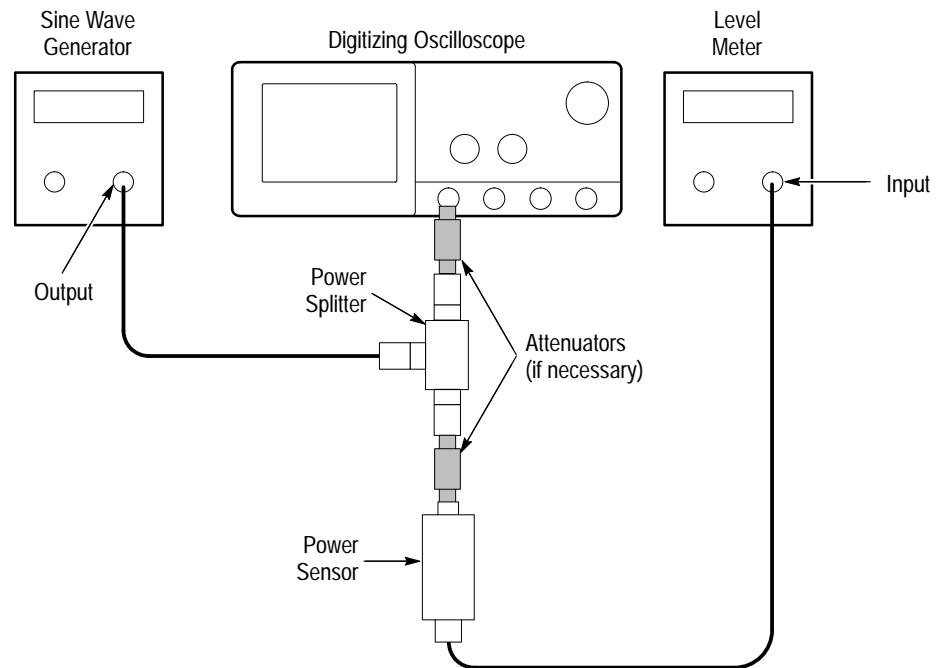

Figure 1–41: Sine Wave Generator Leveling Equipment Setup
1. *Install the test hookup:* Connect the equipment as shown in Figure 1–41.